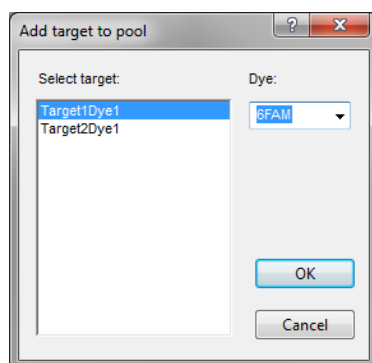

Figure 3.19: The *Add target to pool* dialog box.
7.3 Press <**Add target**> to call the *Add target to pool* dialog box (see Figure 3.19).